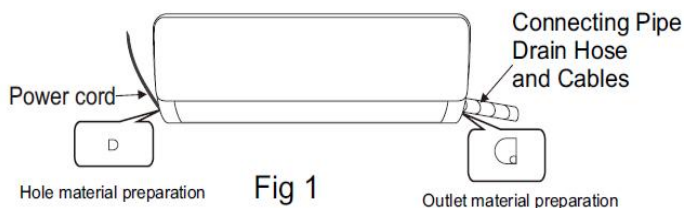
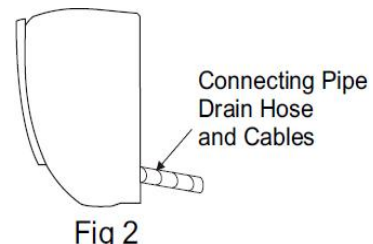

Fig 1
Fig 2
1. Depending on the position of the unit, the piping may be routed sideways from the left or the right (Fig 1), or vertically from the back(Fig 2)(depending on the pipe length of the indoor unit). In the case of sideways routing, cut off the outlet cutting stock of the opposite side.